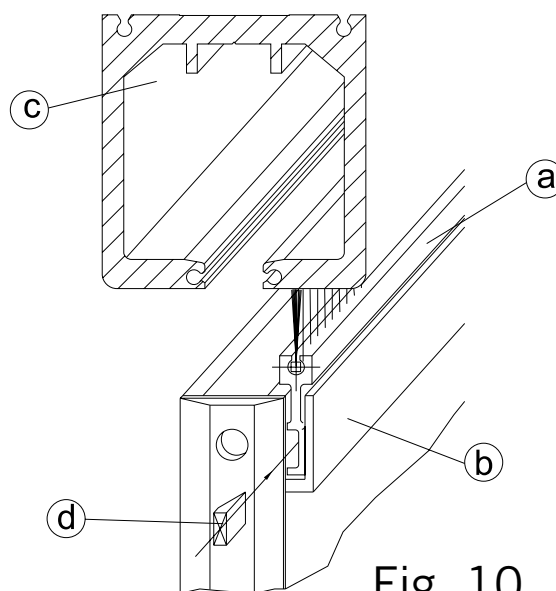

Fig. 10
10. Mounting the upper brush seal (Fig. 10):